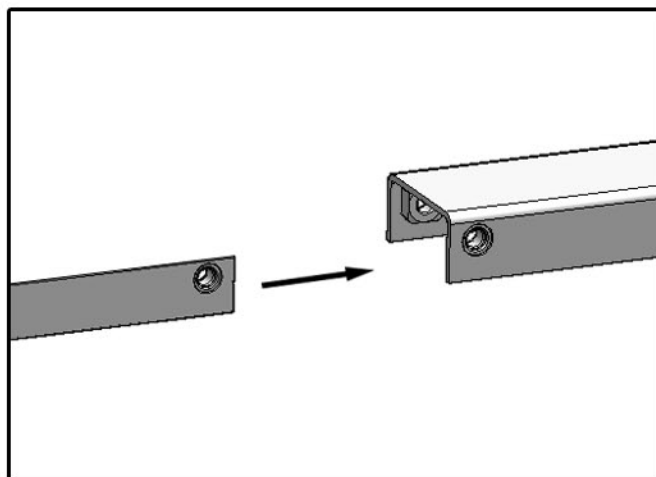

FIG. 2
- 3) Insert the nut plates into each end of the main channel and hold in place with 2 - 3/8" x 1" bolts, one at each end of nut plate and on opposite sides. (see Fig. 2)